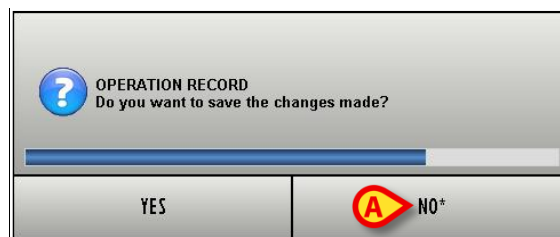

Fig 49
- 2) Timer window with double choice (YES or NO - Fig 49).
When the blue part reaches the left side of the bar the window disappears. When this happens the system chooses either the Yes or No option by default, depending on the context/question. Default selection is set by configuration and indicated by an asterisk (Fig 49 A).